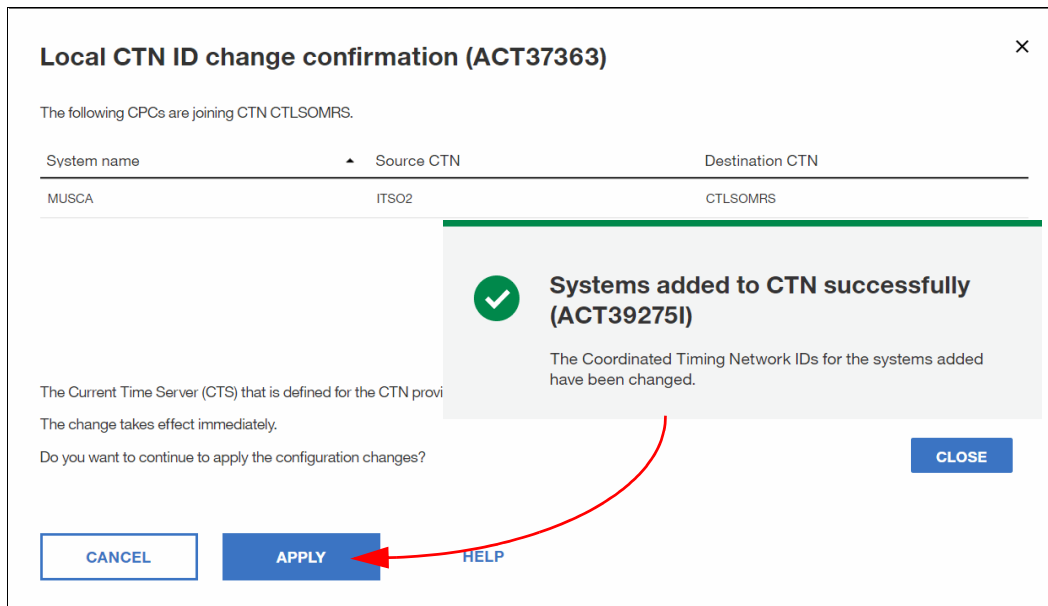

Figure 8-58 Local CTN ID change confirmation (ACT37363) window
- You see the Local CTN ID change confirmation for MUSCA (see Figure 8-58) and after selecting APPLY the Complete message window when finished. Click **Close** (see Figure 8-58).